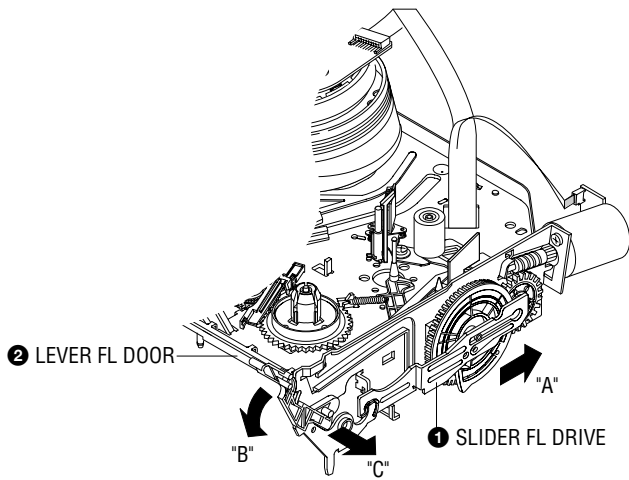

Fig. 2-13 Lever FL Door Removal
- 1) Pull the Slider FL Drive ❶ to the front direction.
- 2) Remove the Slider FL Drive ❶ in the direction of arrow. (Refer to Fig. 2-13)
- 3) Remove the Gear FL cam ❷.